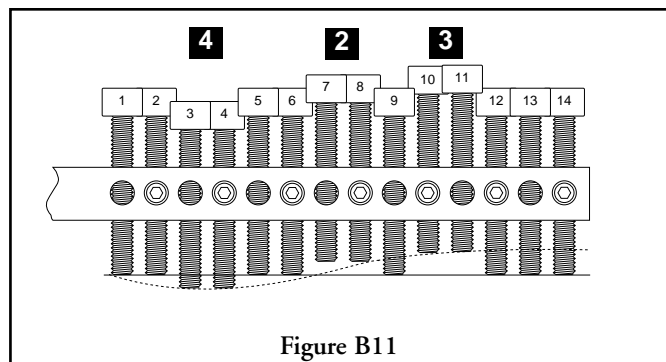
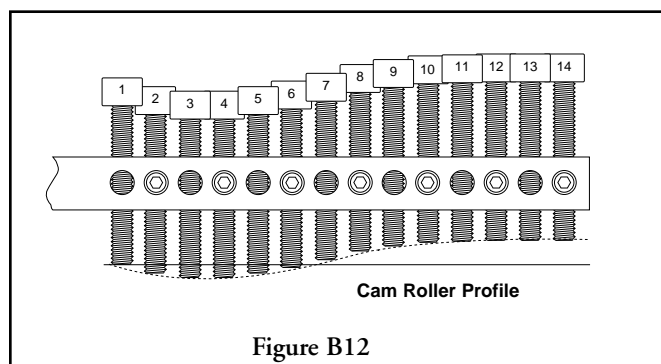

Figure B11
Figure B12
2. For the initial coarse adjustment, operate the burner at a firing rate that will position the middle two cam screw #'s 7 and 8 on the crown of the cam follower. This rate should be the approximate mid point of the firing rate range of the burner or 65% of full firing rate (see #2 Figure B11).
Figure B11 shows this adjustment already made. In this example, screws 7 and 8 were turned CCW about 3 turns in order to achieve the desired fuel/air ratio.
3. For the next coarse adjustment, operate the burner at the firing rate that will position cam screw #'s 10 and 11 on the crown of the cam follower. This rate should be the approximately 50% of full firing rate of the burner (see #3 Figure B11).
Figure B11 shows this adjustment already made. In this example, screws 10 and 11 were turned CCW about 5 turns in order to achieve the desired fuel/air ratio.
4. For the last coarse adjustment, operate the burner at the firing rate that will position cam screw #s 3 and 4 on the crown of the cam follower. This rate should be approximately 83% of the full firing rate of the burner (see #4 Figure B11).
Figure B11 shows this adjustment already made. In this example, screws 3 and 4 were turned CW about 3 turns in order to achieve the desired fuel/air ratio.
5. Once coarse adjustments are made, adjust other cam screws so that the roller moves smoothly across the screws. This can be accomplished by drawing an imaginary cam roller profile (shown in Figure B11) and adjusting the remaining screws to meet this profile (Refer to Figure B12 below).